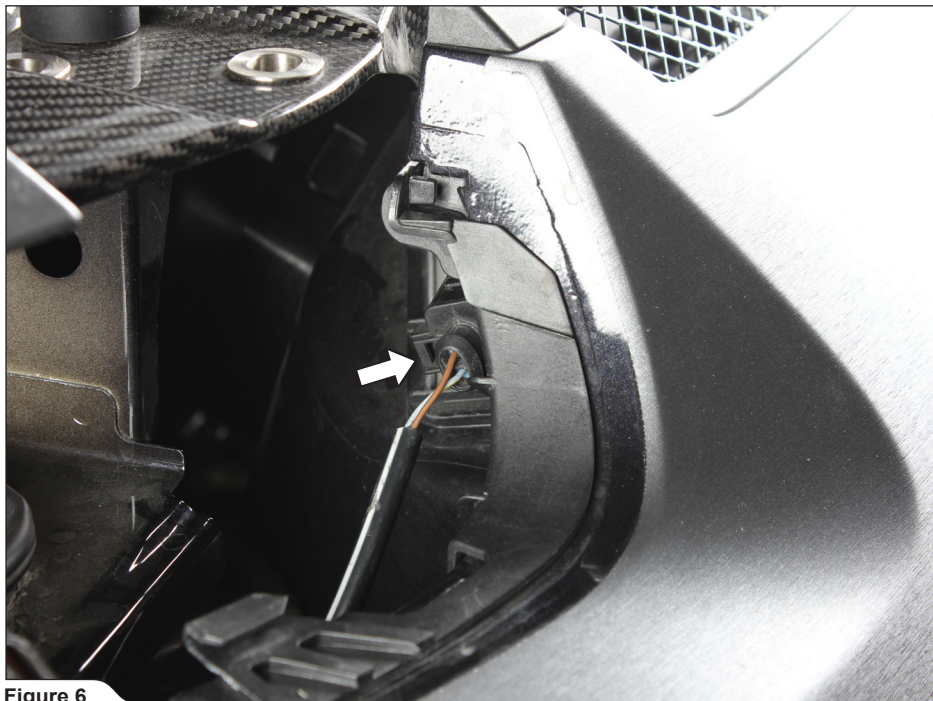

Figure 6
5. Disconnect the bumpers' electrical connector, and carefully remove the bumper off the vehicle (Figure 6).